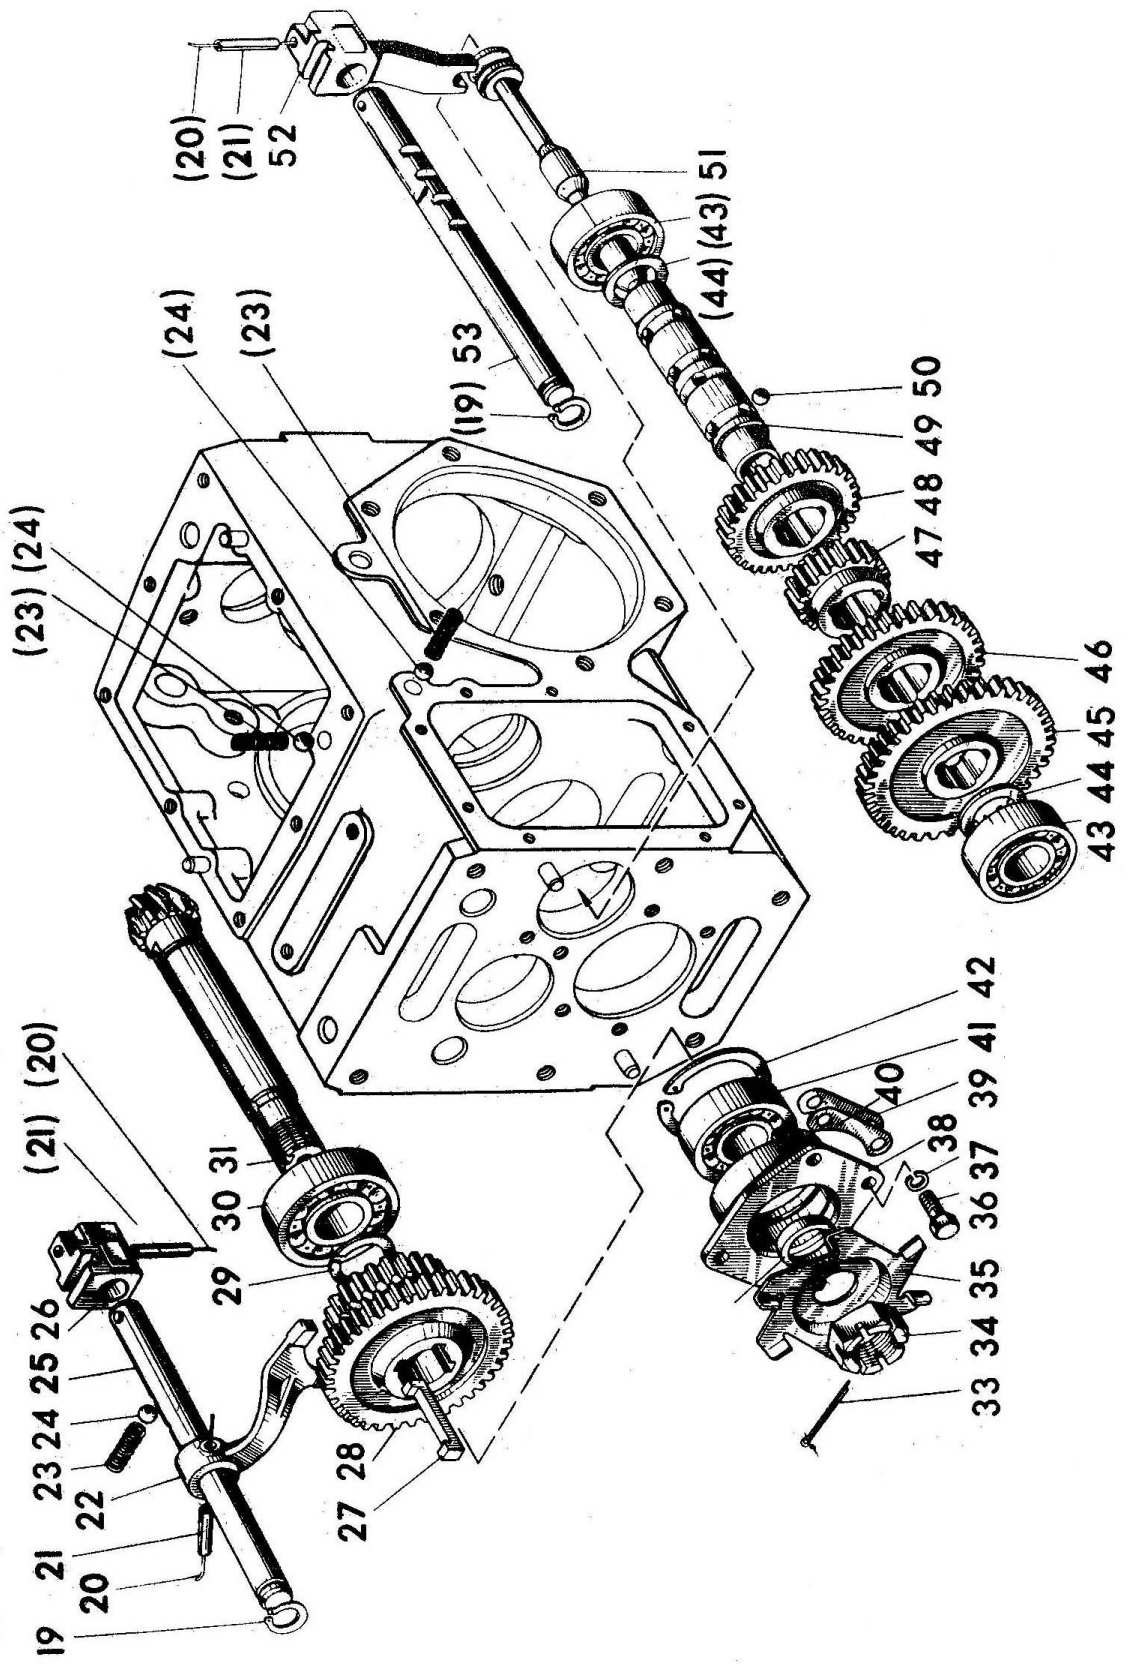

Figure 4a— Gear box
**05-1701. Gear box** (figure 4a)